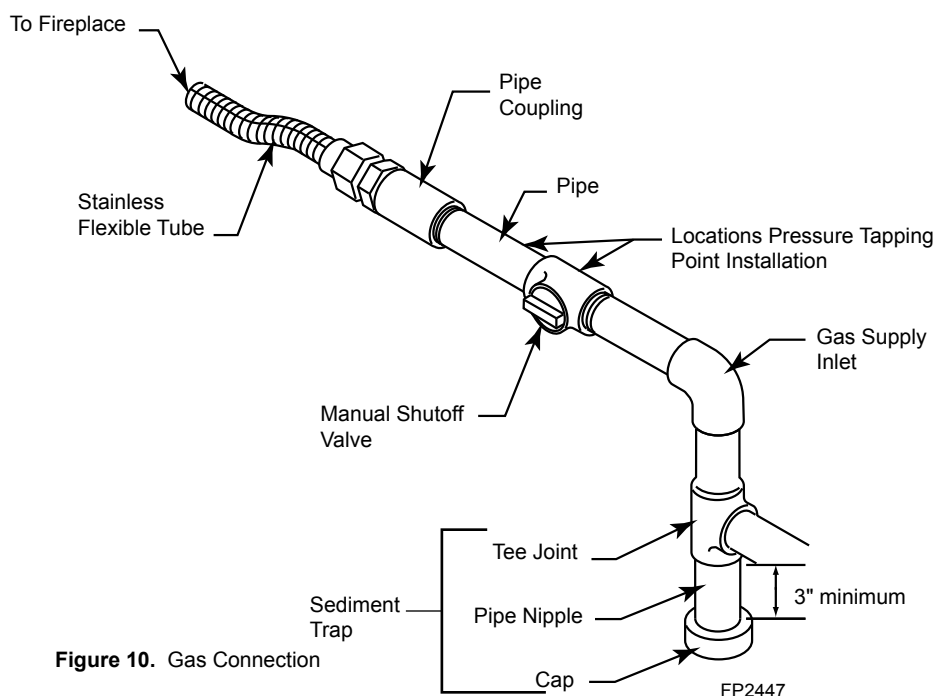

Figure 10. Gas Connection
4. Plumb gas line. Refer to the Connect the Gas (page 11, Figure 10) section found in this manual. (Gas connections should only be performed by an experienced, licensed/certified service person).
A manual shutoff valve must be installed upstream of the appliance. Union tee and plugged  $\frac{1}{8}$ " NPT pressure tapping point should be installed upstream of the appliance. Figure 10
A sediment trap should be installed upstream of the appliance to prevent moisture and contaminants from passing through the pipe to appliance controls and burners. Failure to do so could prevent the appliance from operating reliably. Figure 10